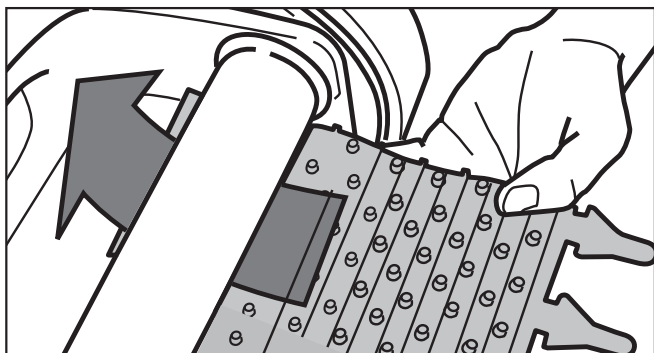

Figure 16. Position the New Brush on Roller
- Position the new brush mat underneath the roller with the bristles facing downwards. Refer to Figure 16.